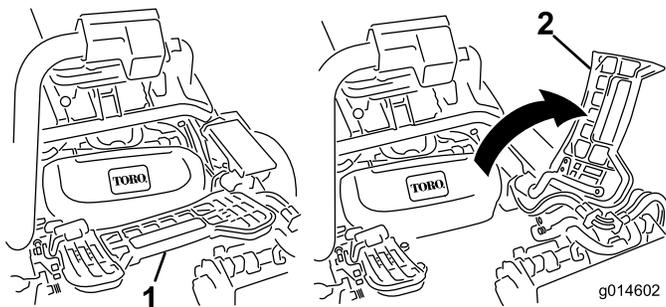

Figure 35
2. Lift up on the foot rest and swing it open, allowing access to the center cutting unit position (Figure 35).